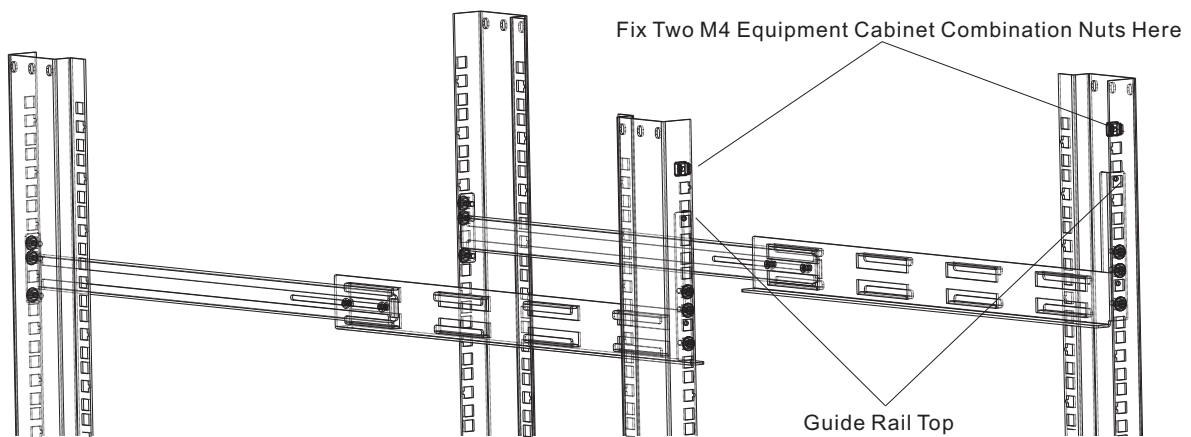

Figure 6 Fix Nuts for 4U Chassis Device
(3) 4U chassis device: Fix an equipment cabinet combination nut on the third hole counting from up to down of each guide rail, as shown in Figure 6.